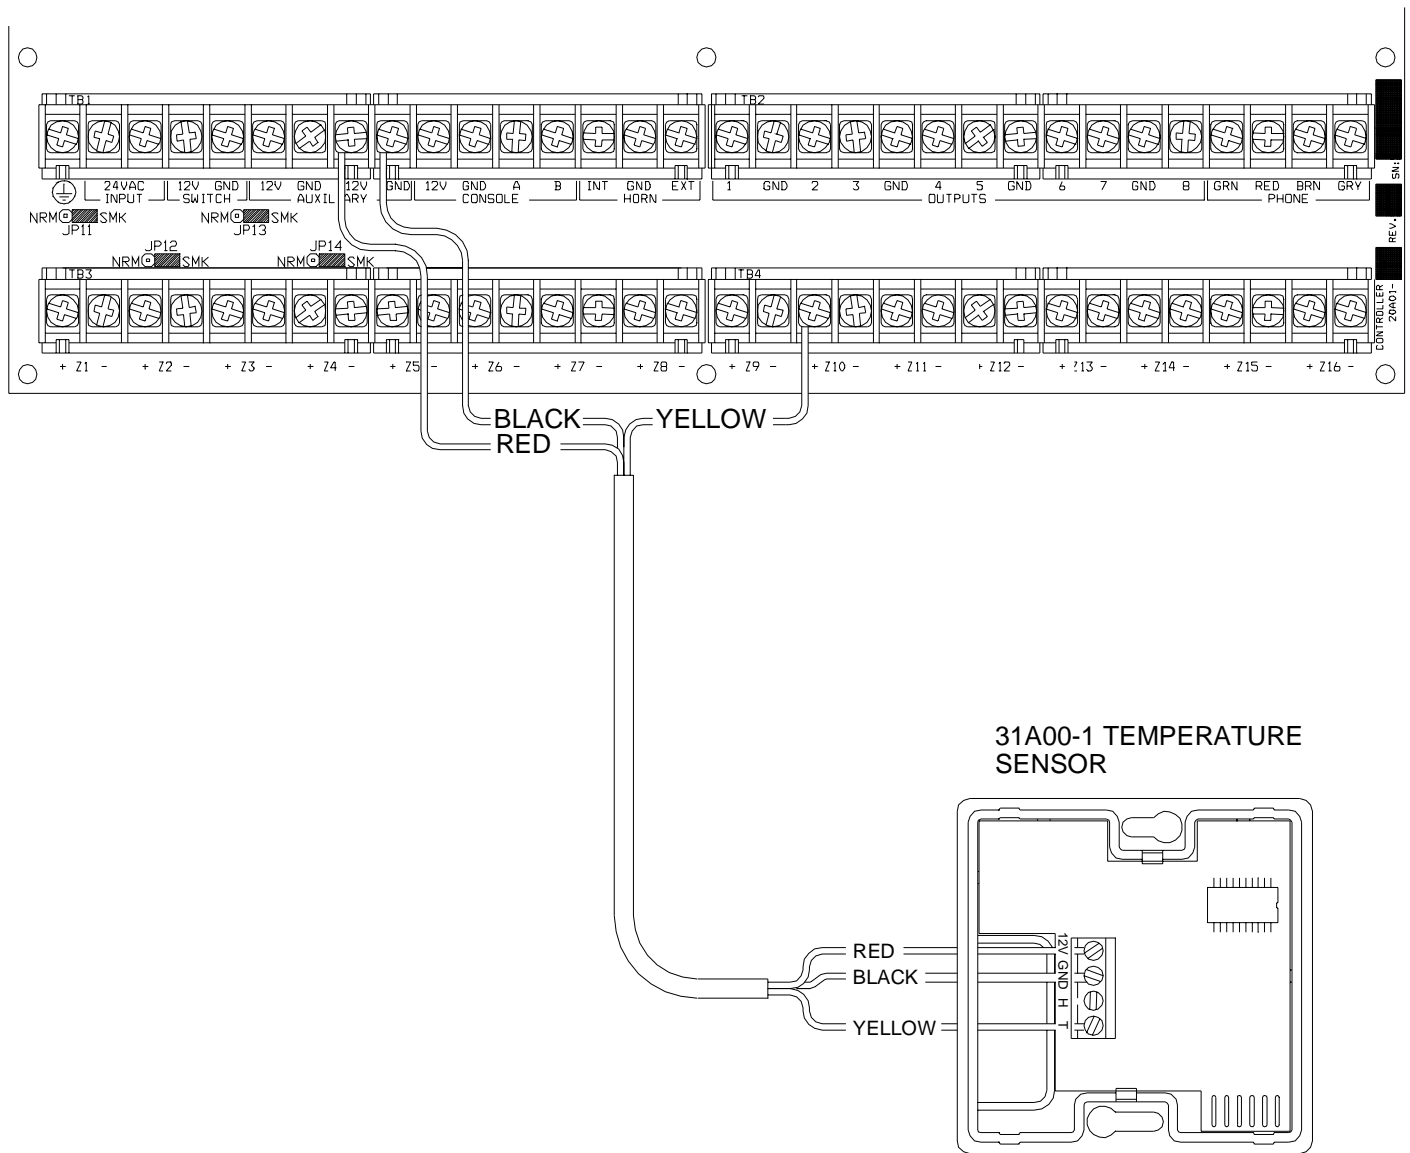

FIGURE 1 – MODEL 31A00-1 CONNECTIONS
2. Mount the Model 31A00-1 using the supplied wall anchors and screws. Orient the Model 31A00-1 as shown in FIGURE 1 for the optimal temperature reading. Connect as shown in FIGURE 1.